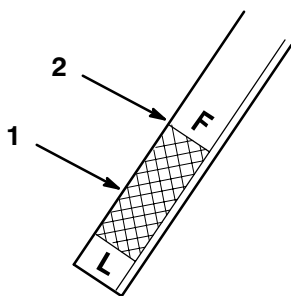

Figure 44
7. Pull the dipstick out and look at the metal end. When the transaxle is cold, oil should be in the operating range, below the Full line on the dipstick (Fig. 44).